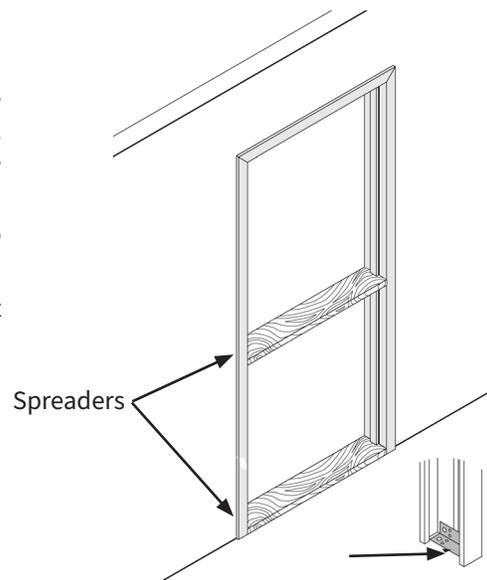

Figure 17: Place and Anchor to Floor
3. Place and Anchor to Floor (Figure 17)